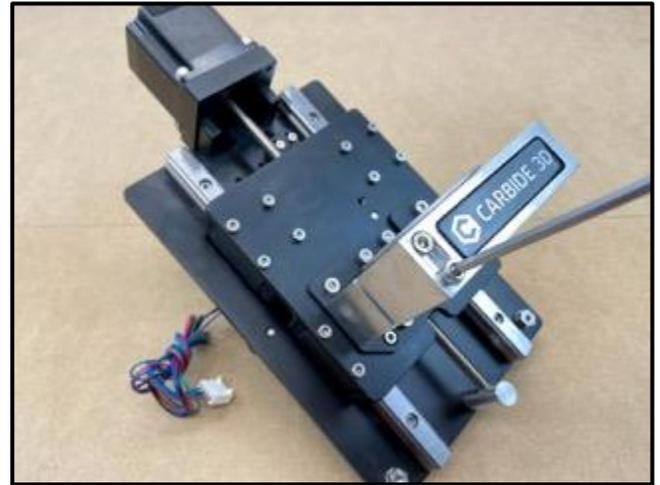

Figure 3-13
5. Use the 4mm hex key to insert the two M5x55mm socket head cap screws into the front of the router mount. Hand tighten only. *Figure 3-13.*